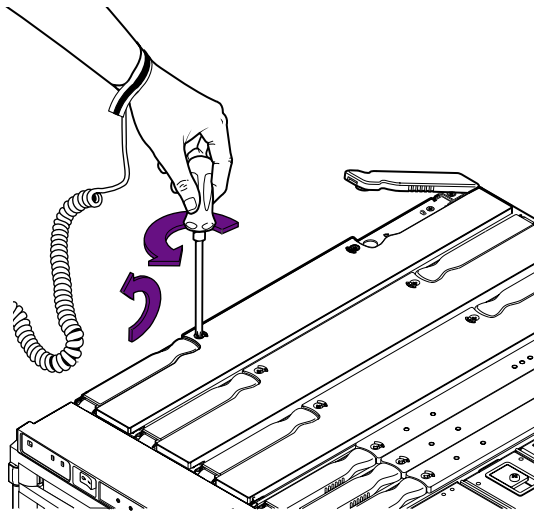

FIGURE 9-3 Unlocking the CPU/Memory Board Ejector Levers
8. Unlock the ejector levers on the CPU/Memory board using a Phillips no. 2 screwdriver (FIGURE 9-3).